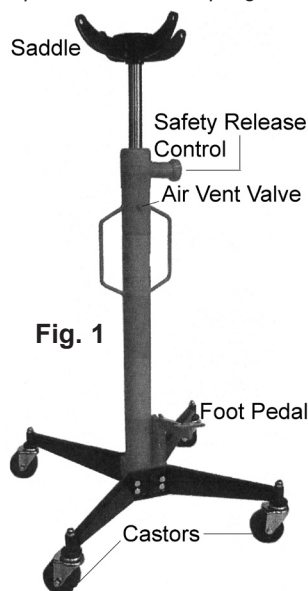

Fig. 1
- 3.4 Remove the transportation oil plug and replace it with the operating plug, identified as the Air Vent Valve in Fig. 1.